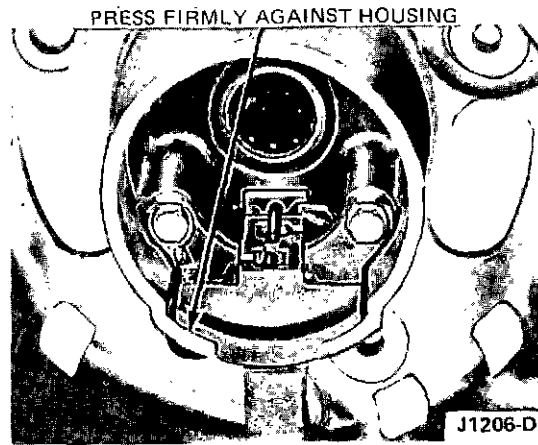

Fig. 21 – Brush Lead Positions – Typical
Set the Rotunda ohmmeter multiply-by knob at 1. Connect the ohmmeter probes between each pair of stator leads (Fig. 21). If the ohmmeter does not show equal readings between each pair of stator leads, the stator is open and must be replaced.
7. Position the brush holder assembly in the rear housing and install the mounting screws. Position the brush leads in brush holder as shown in Fig. 21.